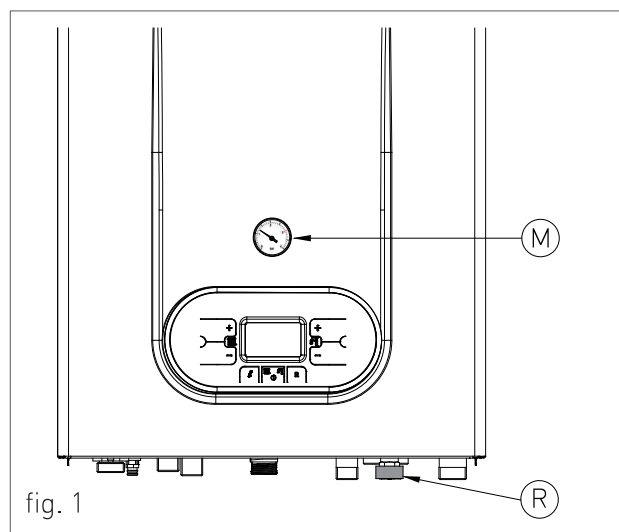
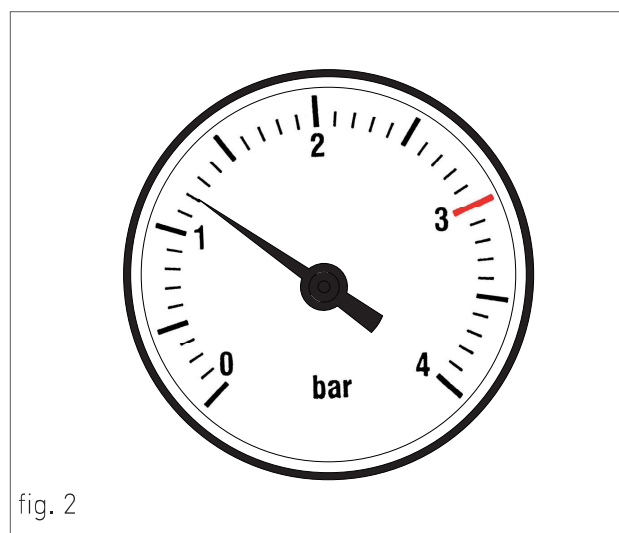

fig. 1
fig. 2
10. FLAME PRESENT SIGNALLING / IT ALSO INDICATES, ON 3 PERCENTAGE LEVELS, THE MODULATING POWER LEVEL OF THE BOILER (fig.2)
To restore the water pressure inside the system open the loading tap "R" (fig. 1) and make sure using pressure gauge "M" (fig. 1), that the system pressure reaches 1.2 bar (see fig. 2).
After performing this operation, make sure that the loading tap "R" (fig. 1) is properly closed.